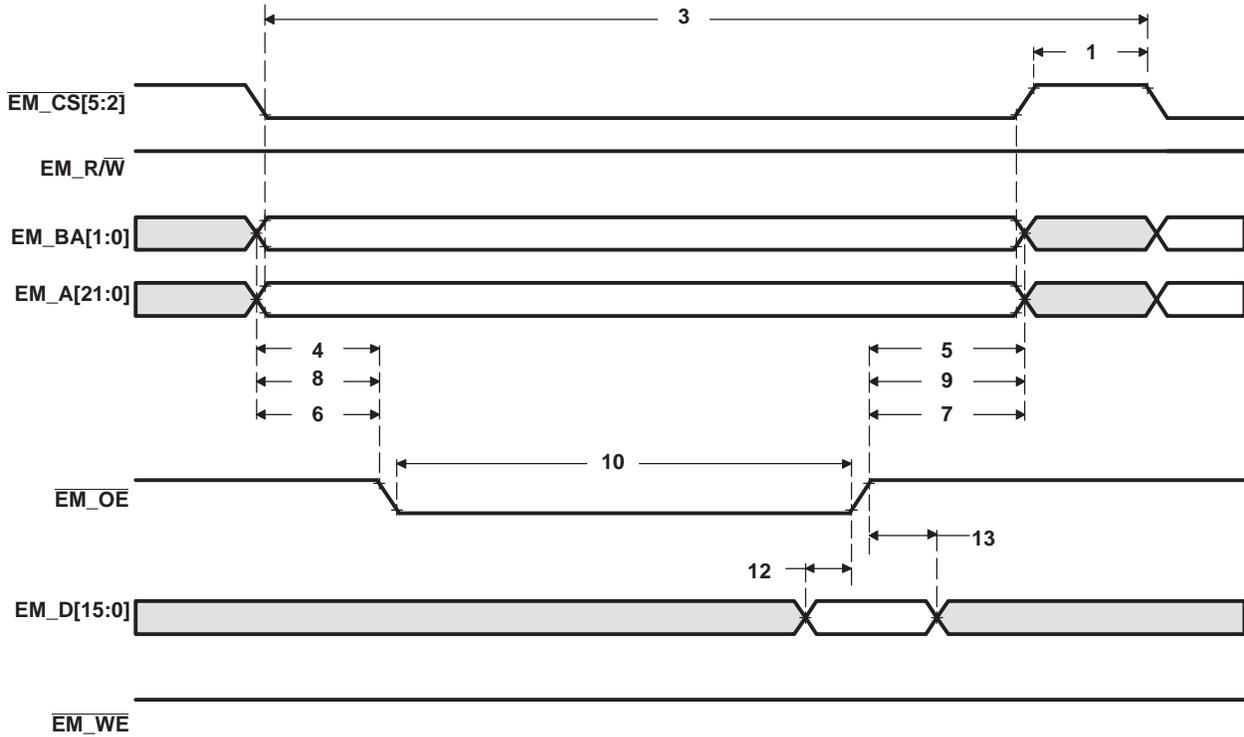
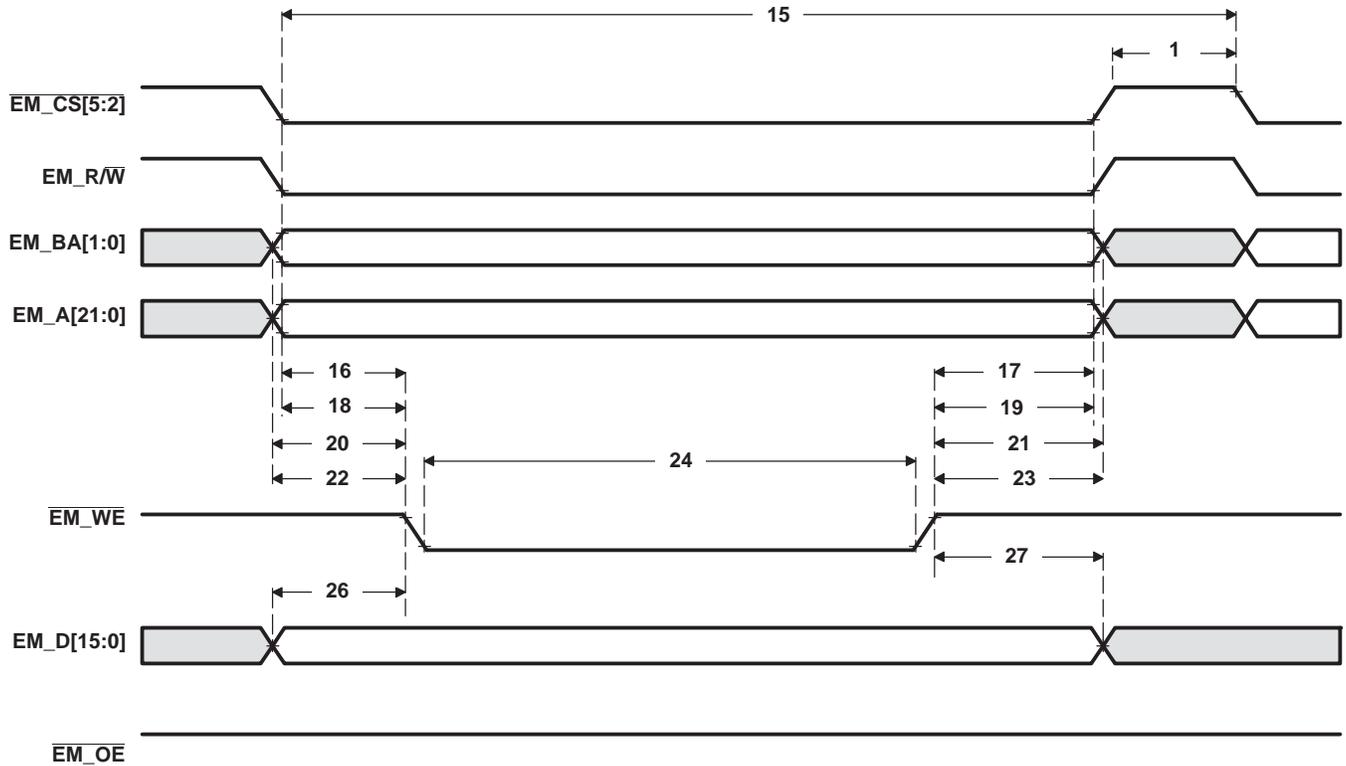

Figure 6-21. Asynchronous Memory Read Timing for EMIF
Figure 6-22. Asynchronous Memory Write Timing for EMIF
(see Figure 6-21 and Figure 6-22)
Table 6-35. Switching Characteristics Over Recommended Operating Conditions for Asynchronous Memory Cycles for EMIFA Module^{(1) (2)} (see Figure 6-21 and Figure 6-22)
Table 6-35. Switching Characteristics Over Recommended Operating Conditions for Asynchronous Memory Cycles for EMIFA Module (see Figure 6-21 and Figure 6-22) (continued)